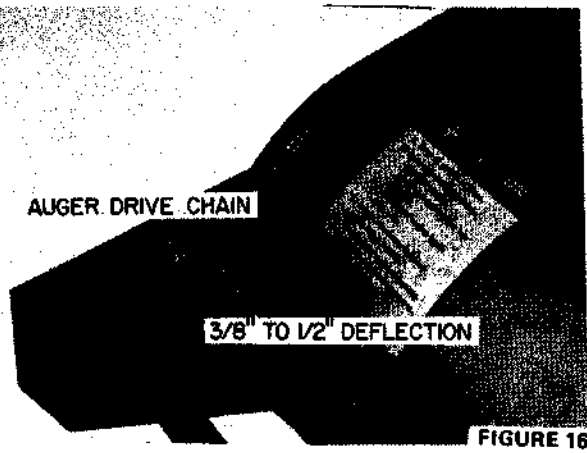

FIGURE 16
3. The auger drive chain should be adjusted until the chain deflects from 3/8" to 1/2" with finger pressure applied midway between the sprockets, Figure 16. Adjust drive chain as follows:
Once a month during season or every 25 operating hours, lubricate the auger drive chain, Figure 16, with heavy duty chain lubricant.